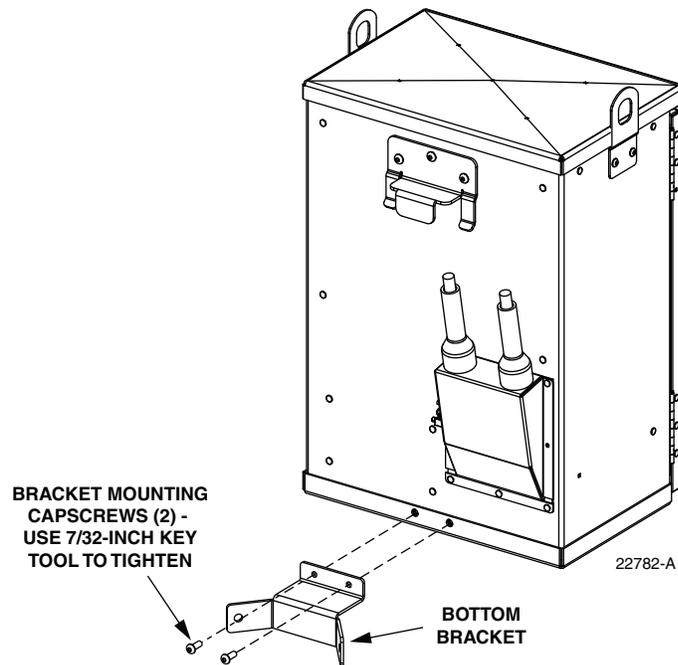

Figure 5. Securing Bottom Mounting Bracket to the Cabinet
5. Locate the two bottom bracket mounting capscrews (shown in Figure 5) and the 7/32-inch hex key that are provided with the cabinet.